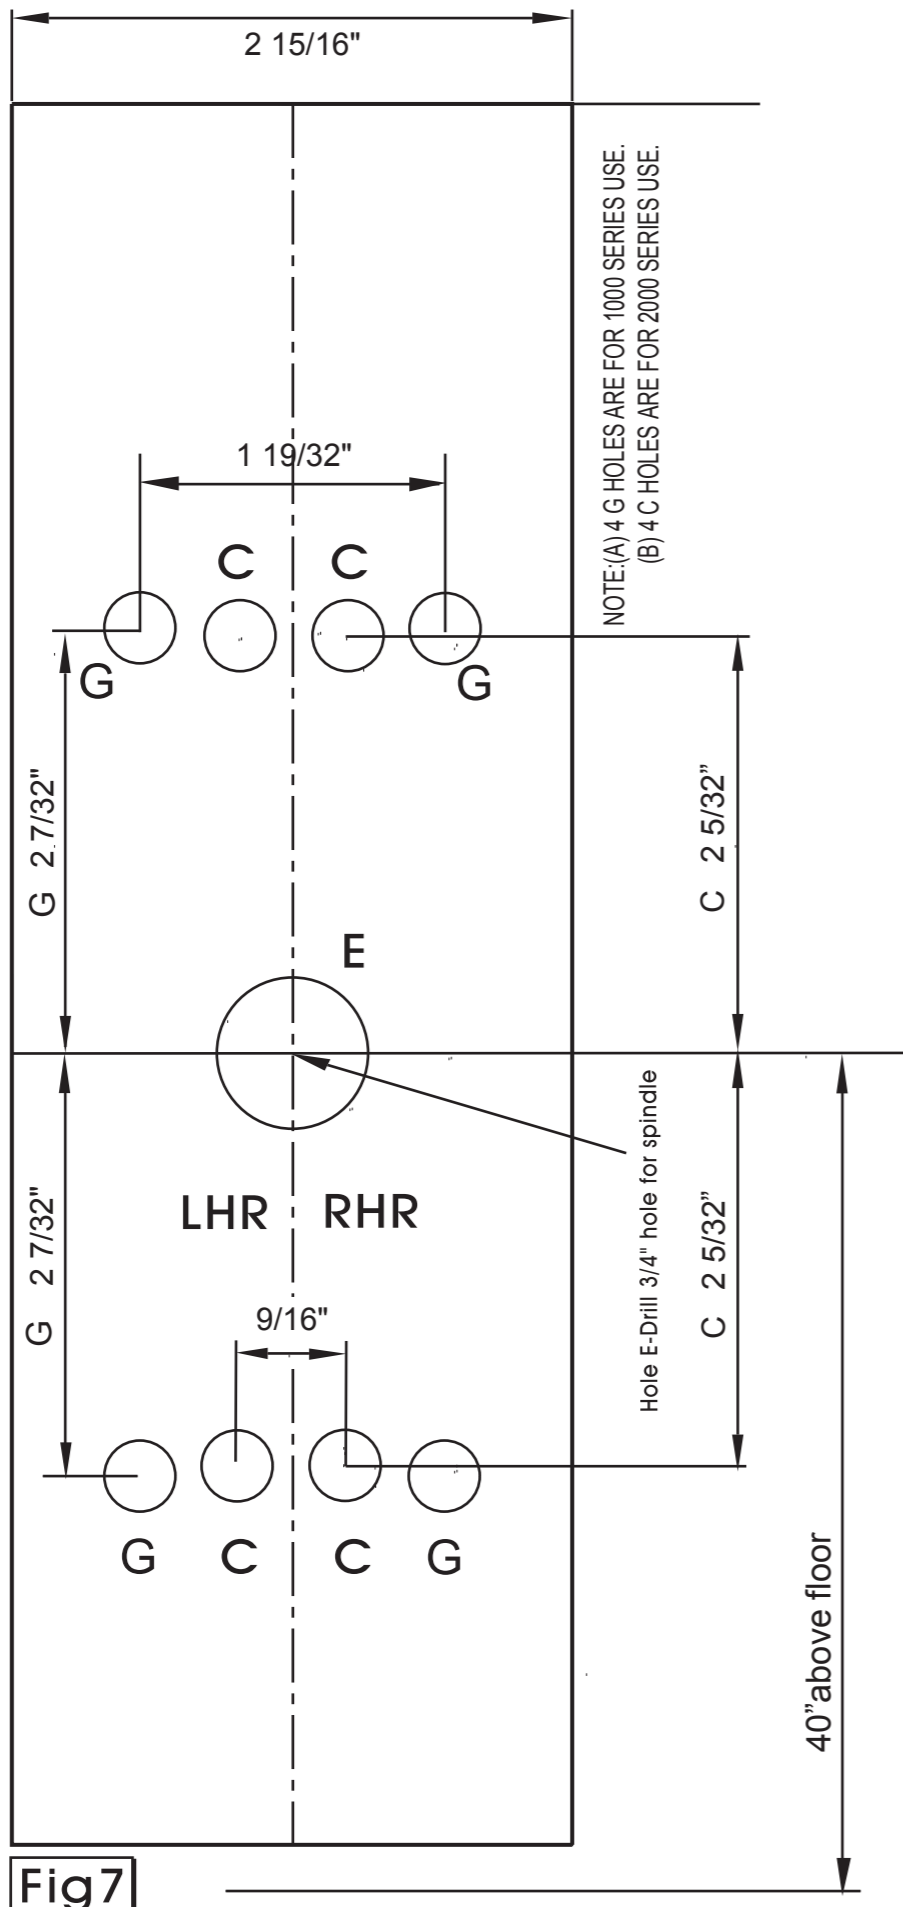
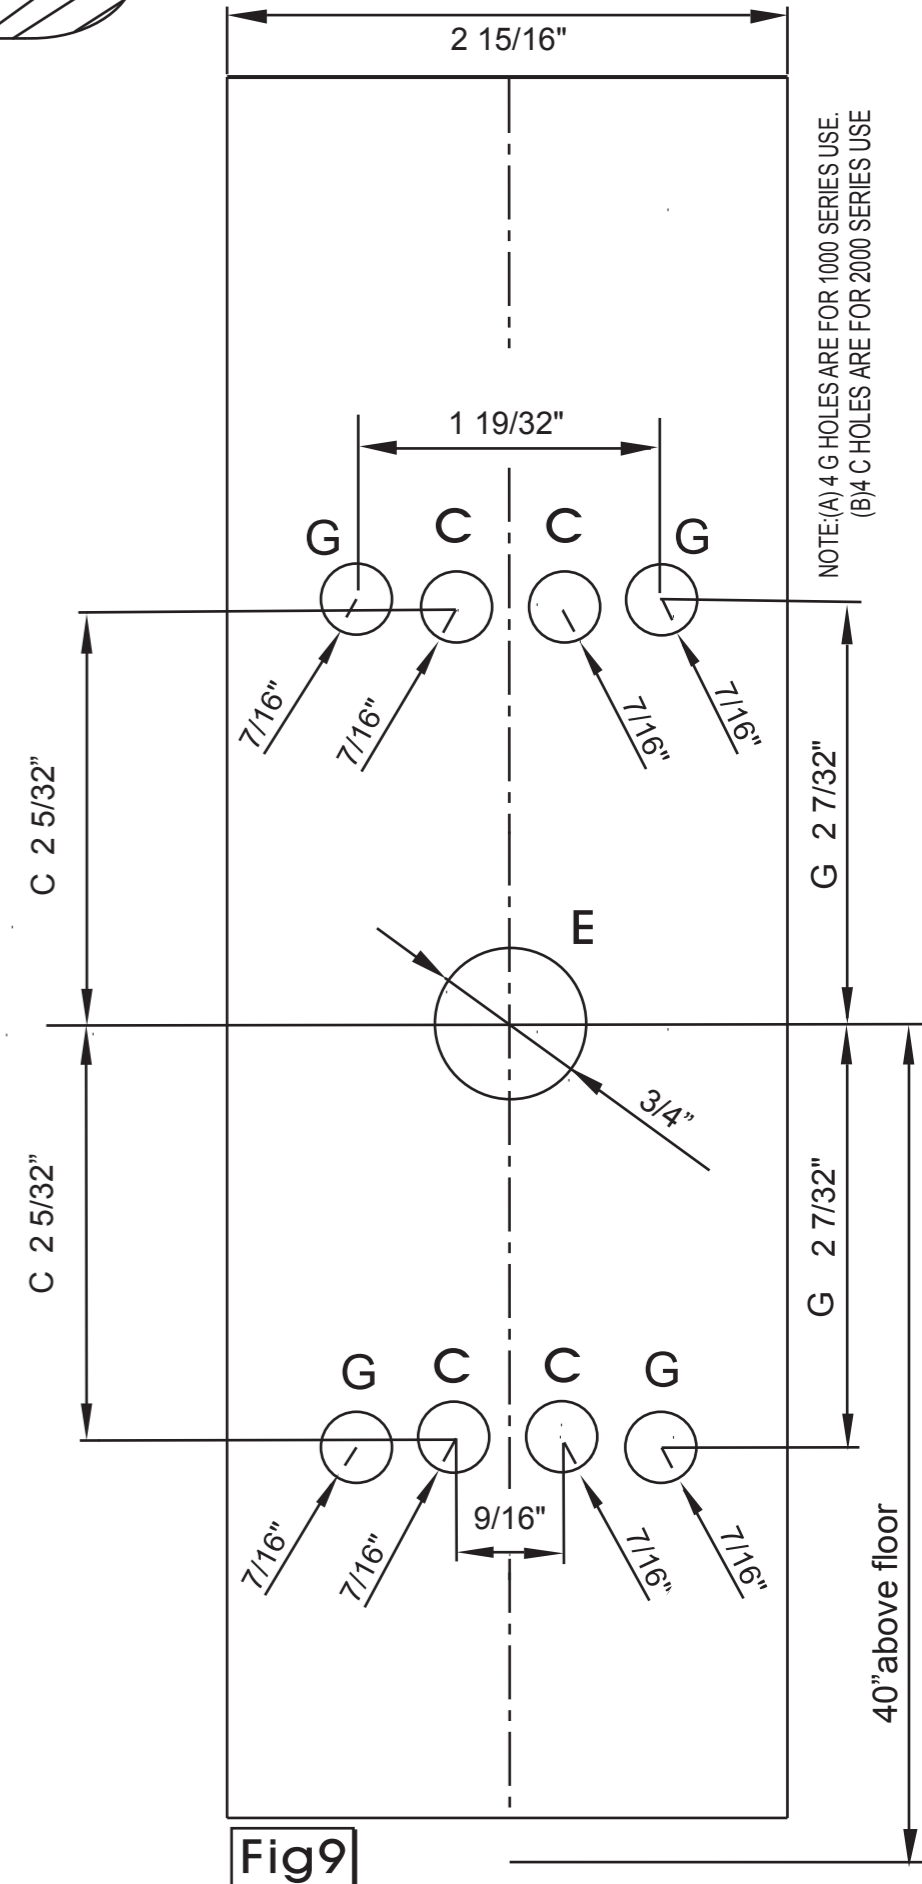

Fig 7
Fig 9
4. FOR 1000 SERIES SCREW THRU BOLTS INTO (4) G HOLES & FOR 2000 SERIES, SCREW THRU BOLTS INTO (4) C HOLES AND TIGHTEN.
7. PROCEED WITH TEMPLATING DOOR AS SHOWN IN FIG 7 AND FIG 9 FOR EITHER 1000 OR 2000 SERIES.